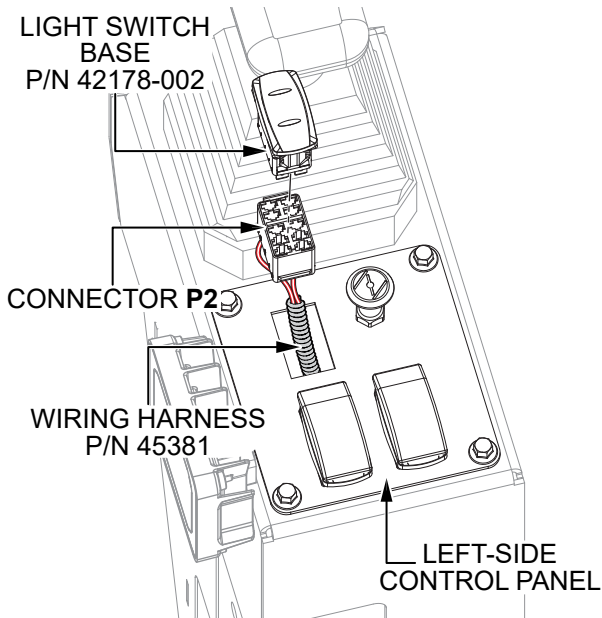

**Figure 11. Assemble Light Switch**
2. Install the light switch actuator (P/N 42179-001) onto the light switch base (P/N 42178-002). See Figure 11.